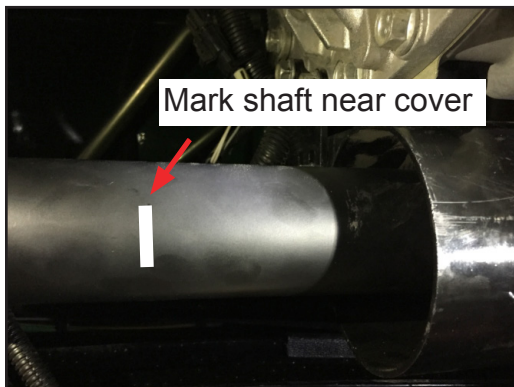

Figure 4
- Use a machinist's marker to mark a location on the shaft near the cover (location not critical) (Figure 4).